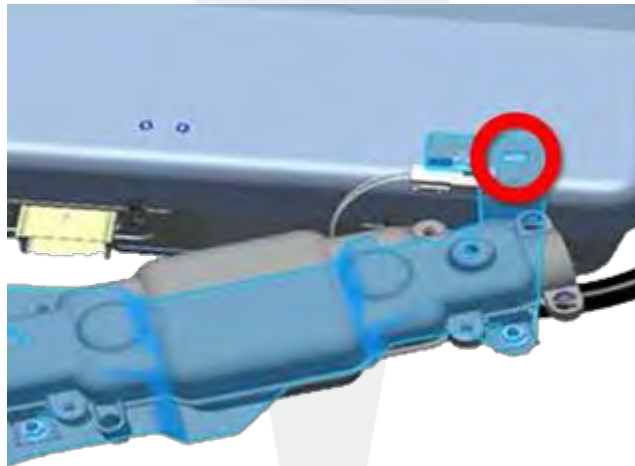

Figure 18
28. **Dual Motor Vehicles only:** Install the screw that secures the fuse bracket to the slave charger (torque 9 Nm) (Figure 18).